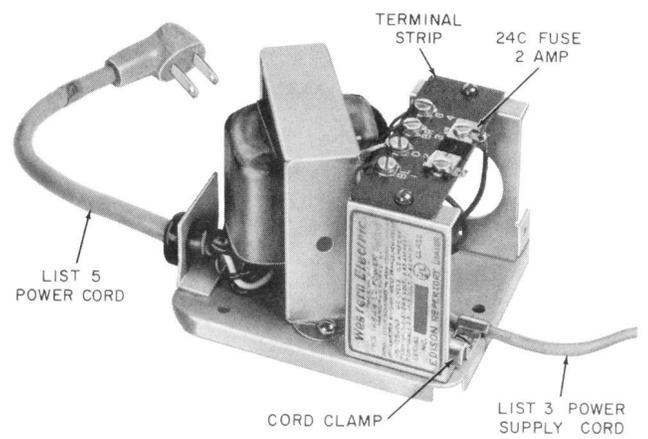

Fig. 4—Power Supply (Cover Removed)
3.09 Power cord shall plug into a 115-volt ac receptacle not under control of a wall switch. The low voltage power supply consists of two voltages: 19.5 and 26.5 volts ac. *Rapidial* is protected by a 24C, 2-ampere fuse located on terminal strip in power supply (Fig. 4).
- 24C, 2-ampere fuse located on terminal strip in power supply (Fig. 4).